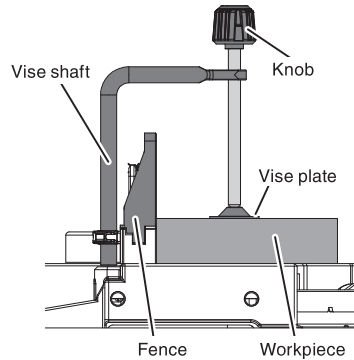

Fig. 14
- (1) The vise assembly can be mounted on the base.
- (2) Turn the upper knob and securely fix the workpiece in position (Fig. 14).